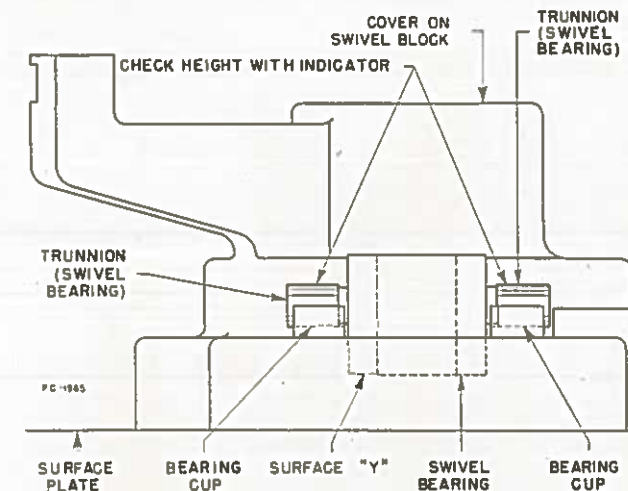

FIGURE 11A
8. Remove Index Shaft from Bronze Bushing in Swivel Block and press Woodruff keyed gear off shaft. Gear is 0.0005" to 0.0015" tight. Remove four $\frac{1}{4}$ " screws from both bearing caps and remove Swivel Bearing (Figure 11A).
If indicator reading on new assembly is less than old assembly, scrape difference of two readings off surface "Y" of Swivel Bearing (Figure 11A).